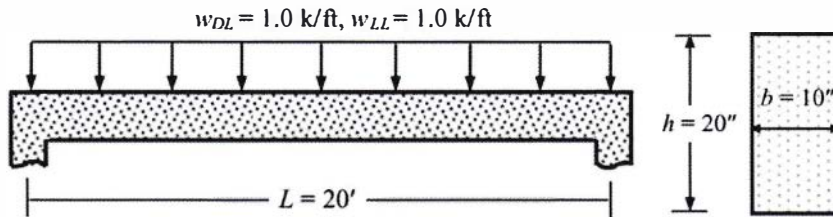

Figure: 3
7. A simply supported rectangular beam of normal weight concrete is loaded as shown in **Figure: 3**. (10)